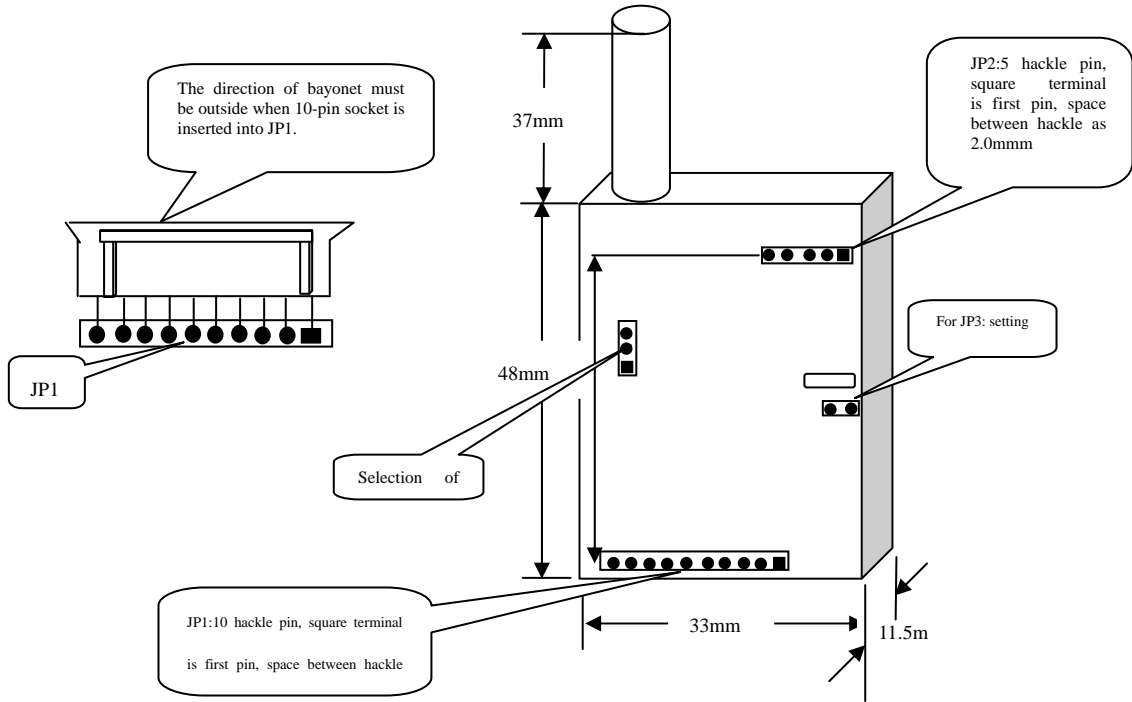
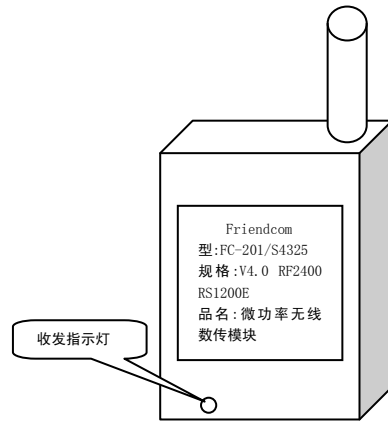

Fig. 3. Sketch map of FC-201S (back)
Fig.4 Sketch map of FC-201S (front)
3. Sketch map of Overall size and structure, fig. 3 (back), fig. 4 (front)